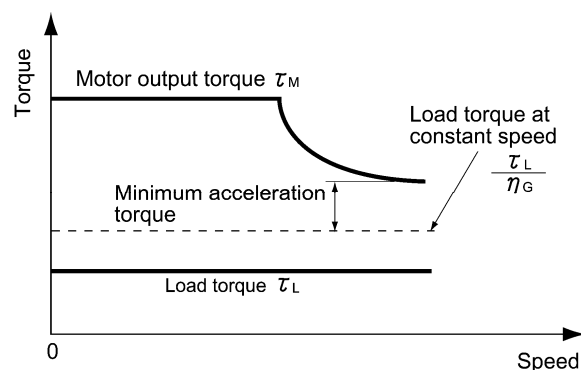

Figure 10.1-4 Example Study of Minimum Acceleration Torque
- 2) Calculate the **minimum acceleration torque** (See Figure 10.1-4)